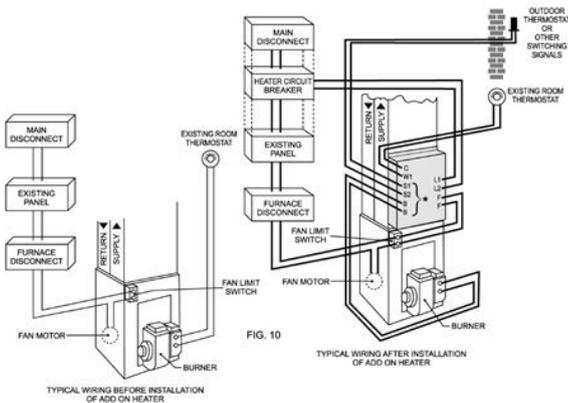

FIG. 10
- F. Connect two (2) wires from BB control terminals of plenum heater to furnace room thermostat connection.
- H. **Anticipation** Set the room thermostat heat anticipator at 0.2. Perform start-up and required field tests. (Please see fig. 10) or schematic wiring.